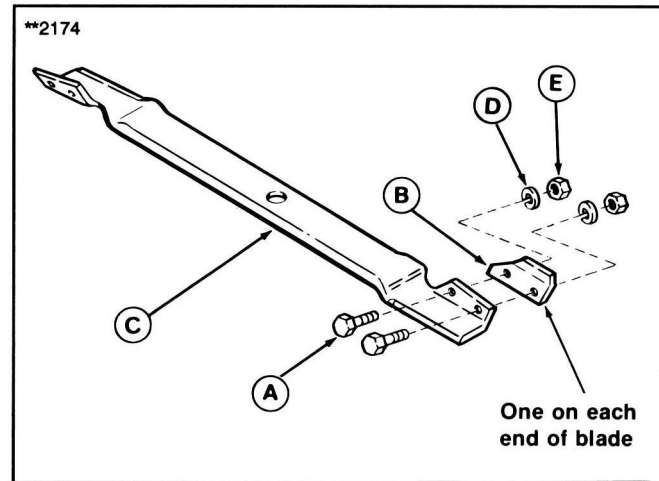

Figure 6.
2. Mount the lifts (B, Figure 6) to the discharge side of the blade as shown. Torque nuts to 14 ft. lbs.